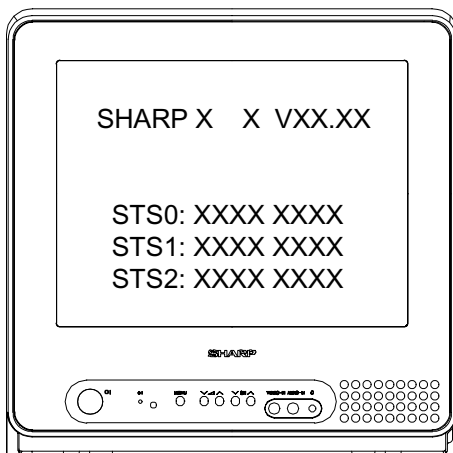

Figure 2
7. The receiver is now in the Service Mode. See Figure 2.